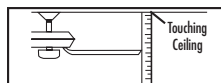
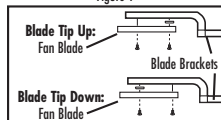

Figure 1
Figure 2
4. Most fan wobble problems are caused when blade levels are unequal. Check this level by selecting a point on the ceiling above the tip of one of the blades. Measure this distance as shown in Figure 1. Keeping measure within 3mm, rotate the fan until the next blade is positioned for measurement. Repeat for each blade. If all blade levels are not equal, you can adjust blade levels by the following procedure. To adjust a blade tip up, insert a washer (not supplied) between the blade and blade holder at the two screws closest to the motor (Figure 2). To adjust a blade tip down, insert washer (not supplied) between the blade and blade holder at the screw farthest from the motor (Figure 2).